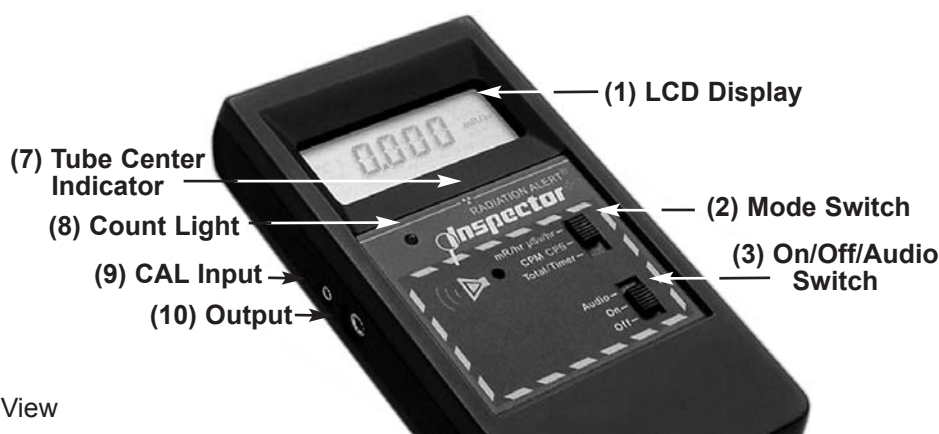

Figure 1 Front View
Mode Switch (Figure 1(2))
Off/On/Audio Switch (Figure 1 (3))
The Inspector+ uses a two-inch Geiger tube, commonly called a “pancake tube.” On the back of the Inspector+, the screen is called the window. See Figure 4. It allows alpha and low-energy beta and gamma radiation, which cannot get through the plastic case, to penetrate the mica surface of the tube. The small **radiation symbol (Figure 1 (7))** on the front label indicates the center of the Geiger tube .
The **Cal Input (Figure 1 (9))** port is used for calibrating electronically using a pulse generator. For details, see “Calibrating Electronically” in Chapter 5.
The **Output (Figure 1 (10))** port below the Cal Input jack allows you to interface the Inspector+ to a computer, data logger, or other device. For details, see “Interfacing to an External Device” in Chapter 3.